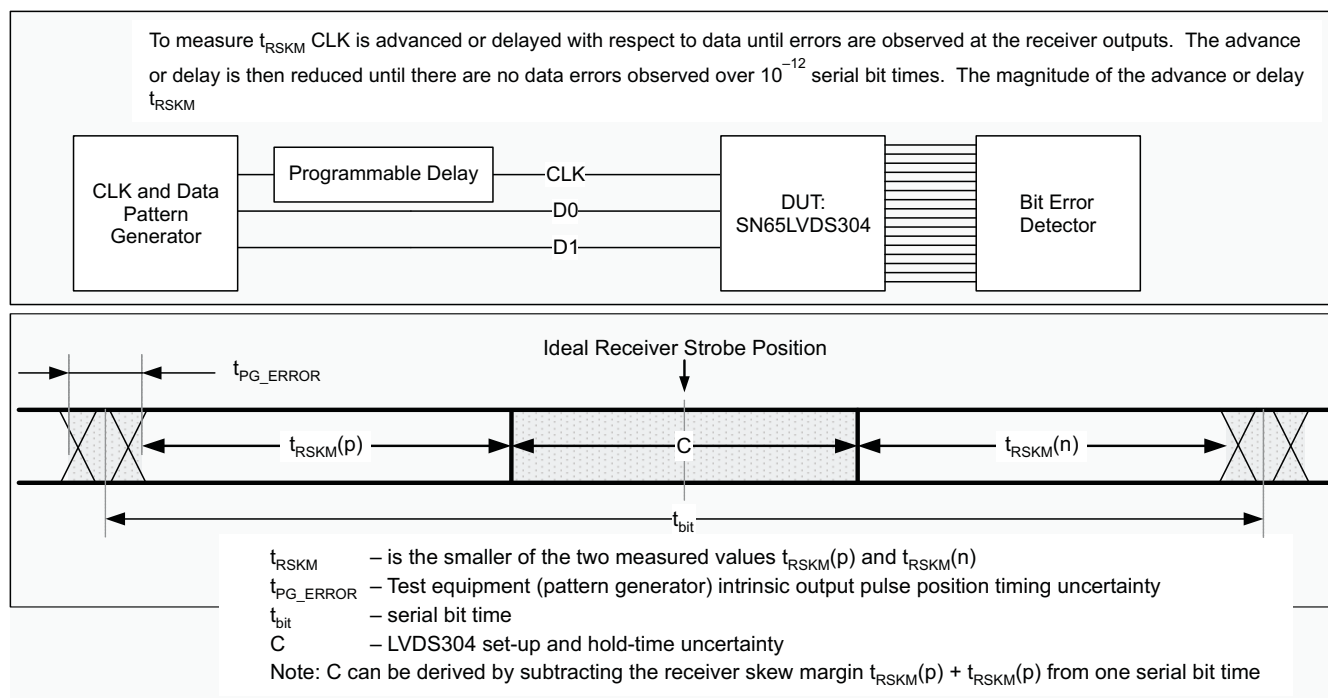

Figure 8. Receiver Jitter-Budget Test Setup
| t_{RSKMx} (1)(2) Receiver input skew margin; see (3) and Figure 36 | 1ChM: $x = 0..29$, $f_{PCLK} = 15$ MHz; RXEN at V_{DD} , $V_{IH} = V_{DD}$, $V_{IL} = GND$, $R_L = 100 \Omega$, test setup as in Figure 8, test pattern as in Table 11 | $f_{CLK} = 15$ MHz ⁽⁴⁾ | 630 | ps |
| | 2ChM: $x = 0..14$, $f_{PCLK} = 30$ MHz; RXEN at V_{DD} , $V_{IH} = V_{DD}$, $V_{IL} = GND$, $R_L = 100 \Omega$, test setup as in Figure 8, test pattern as in Table 12 | $f_{CLK} = 30$ MHz ⁽⁴⁾ | 630 | |